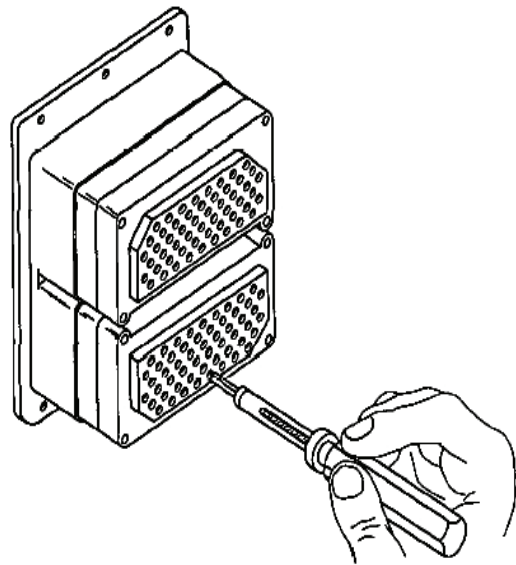

Figure 23. Unlocking Contact Retention Mechanism of Broken Contact
d. If resistance is felt before removal tool reaches back end of contact, withdraw tool slightly, rotate about 1/6 of a turn, and reinsert tool. Repeat rotating and insertion procedure until tool passes with minimum additional force to 5/16 inch depth back end of contact (Figure 23).